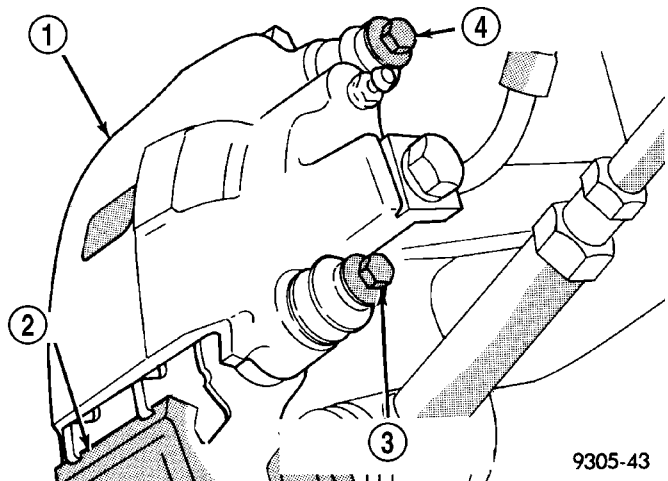

Fig. 18 Caliper Guide Pin Bolts
(1) Raise vehicle on jackstands or centered on a hoist. See Hoisting in the Lubrication and Maintenance section of this manual.
(2) Remove rear wheel and tire assemblies from vehicle.
(3) Remove the 2 caliper assembly to adapter guide pin bolts (Fig. 18).